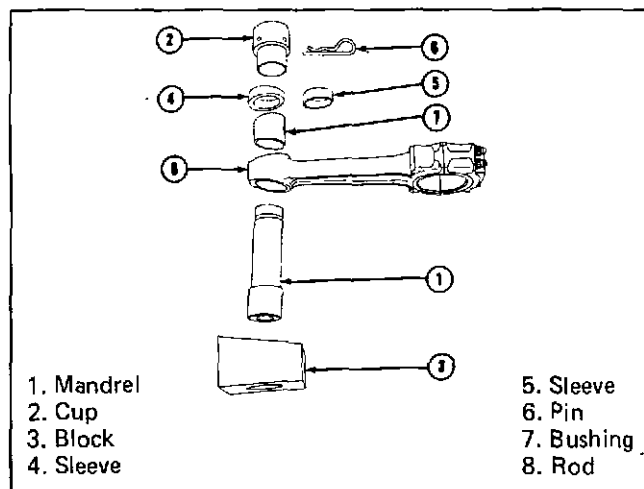

Fig. 1-62 (N10158). The ST-1242 Bushing Driver.
Use the ST-1242 Bushing Driver to remove the piston pin bushing, Fig. 1-62.
1. Put the bushing (7, Fig. 1-62) on the mandrel (1). Put the sleeve (4) and then the cup (2) on the mandrel. Fasten the cup on the mandrel with the locking pin (6).
2. Put the connecting rod on the block (3) and hold it in a horizontal position.
4. Align the sleeve (4) with the middle of the boss on the connecting rod.